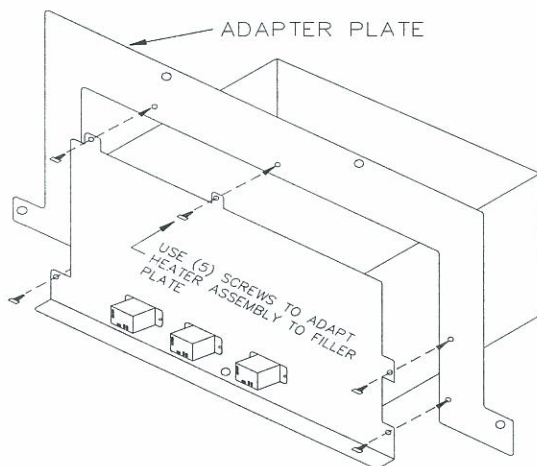

FIG. 2 - ADAPTER PLATE INSTALLATION
1. In order to use the heat accessory in size 048 - 060 cabinets an **ADAPTER PLATE** (provided) must be installed to the heater plate (see fig. 2), except for heat accessory model WSU2002B.